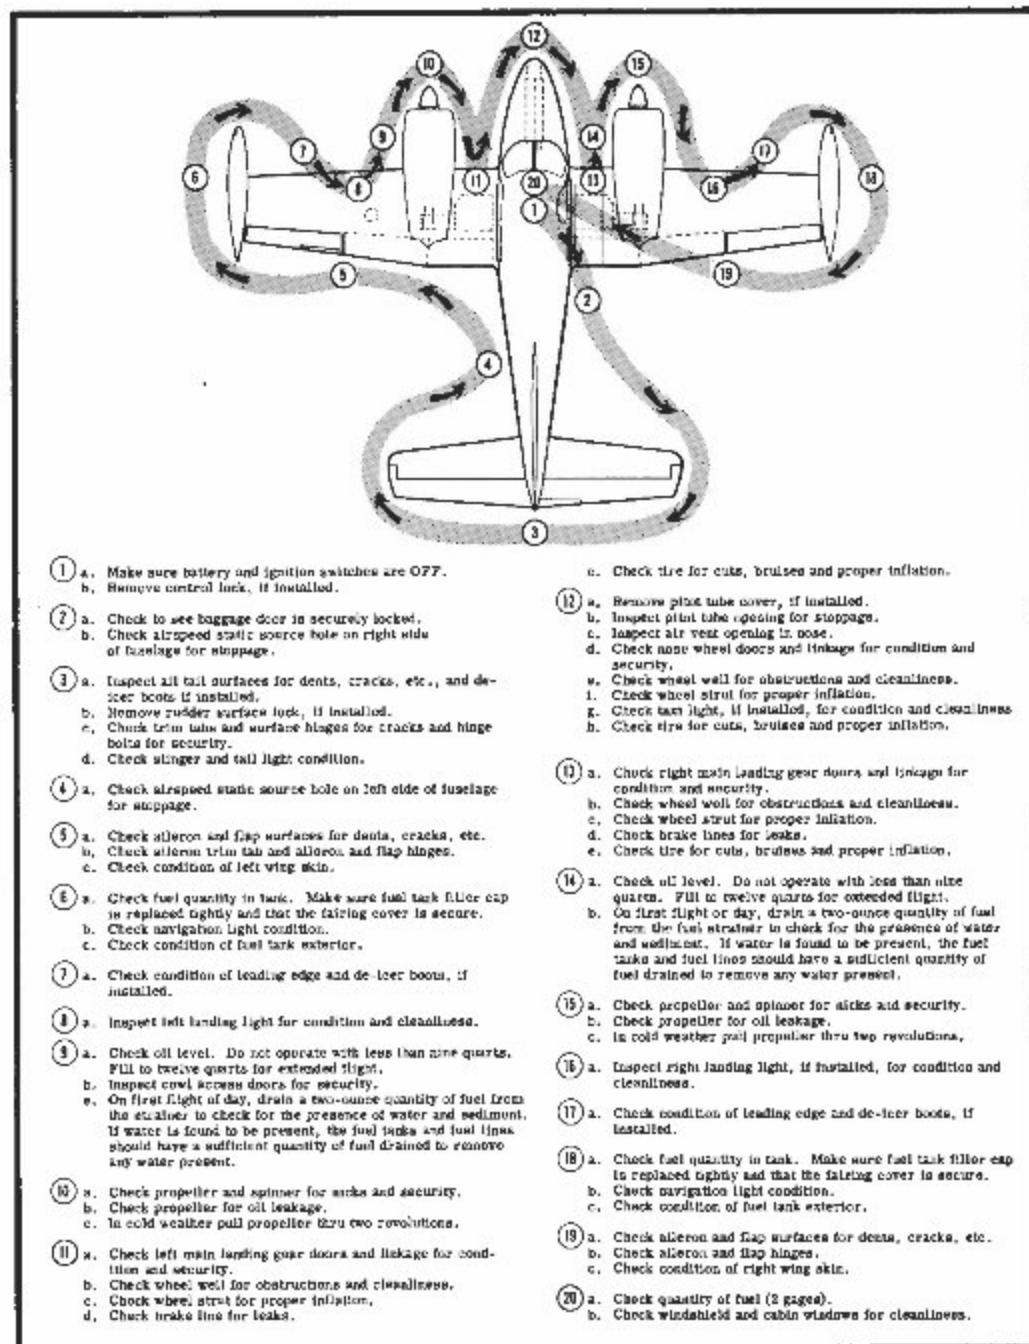

Figure 16. Exterior Inspection
- (1) Perform an exterior inspection (see figure 16).